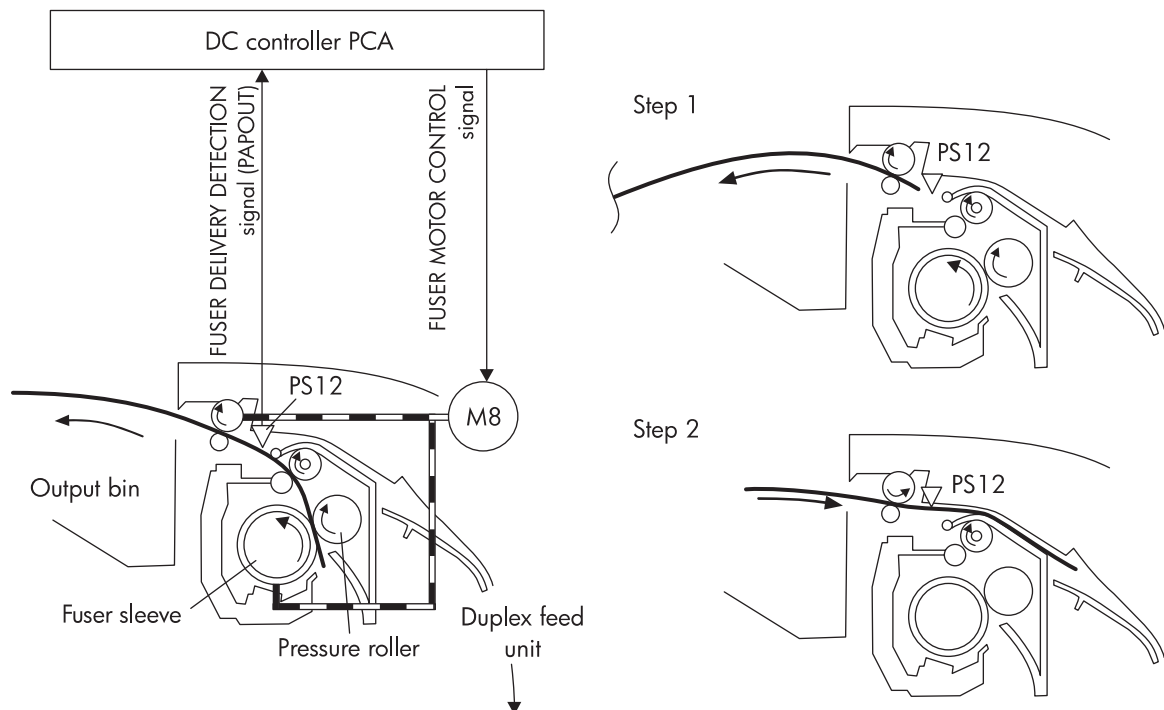

Figure 5-38 Duplex switch back
- 2 The fuser motor (M8) rotates counterclockwise for a specified length of time after the paper reaches the fuser delivery sensor. The fuser delivery roller reverses direction and feeds the paper into the duplex feed unit. Figure 5-38 Duplex switch back illustrates this "switch back" operation.